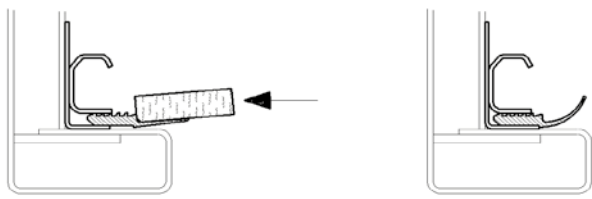

Fig. 3.2
- Press in the seal by placing a wood piece onto the location of the seal provided for that and hammering this securely into its seating over the whole length (Fig. 3.2).